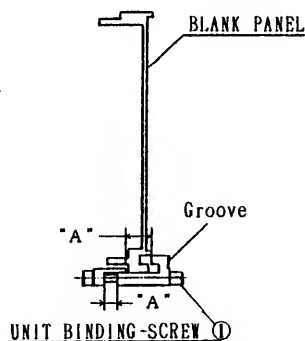

Figure 12-2
1. The groove indicated with the asterisk in Figure 12-2 may be used for identification marks (such as "CH1", "CH2").